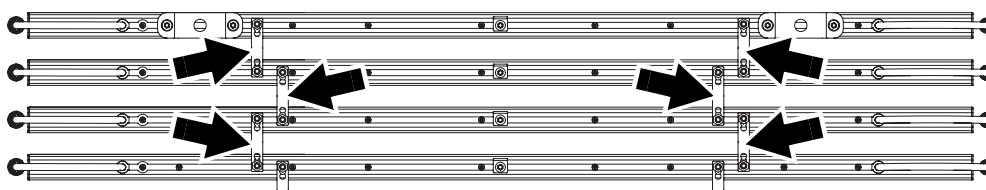

Figure 7: Installing parallel couplers
3. Fasten the coupler to the fixtures with a grade 8.8 strength M6x10mm bolt, washer and self-locking nut following the instructions later in this chapter. If the instructions allow, you can use the thumbscrews supplied with the couplers to fasten couplers to fixtures. See Figure 7. Install parallel couplers (arrowed) as close as possible to the ends of fixtures but allow space for sliding brackets.